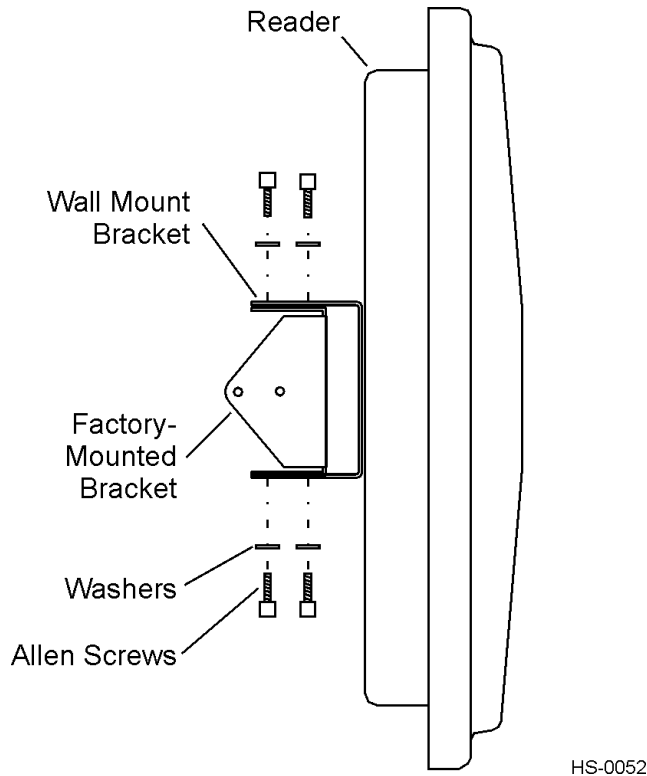

Figure 34 Factory-Mounted Bracket Attached to Wall Mount Bracket
- Using the four screws and washers supplied with the wall-mount bracket, attach the factory-mounted bracket to the wall mount bracket, lining up the four outside screw holes as shown in Figure 34.